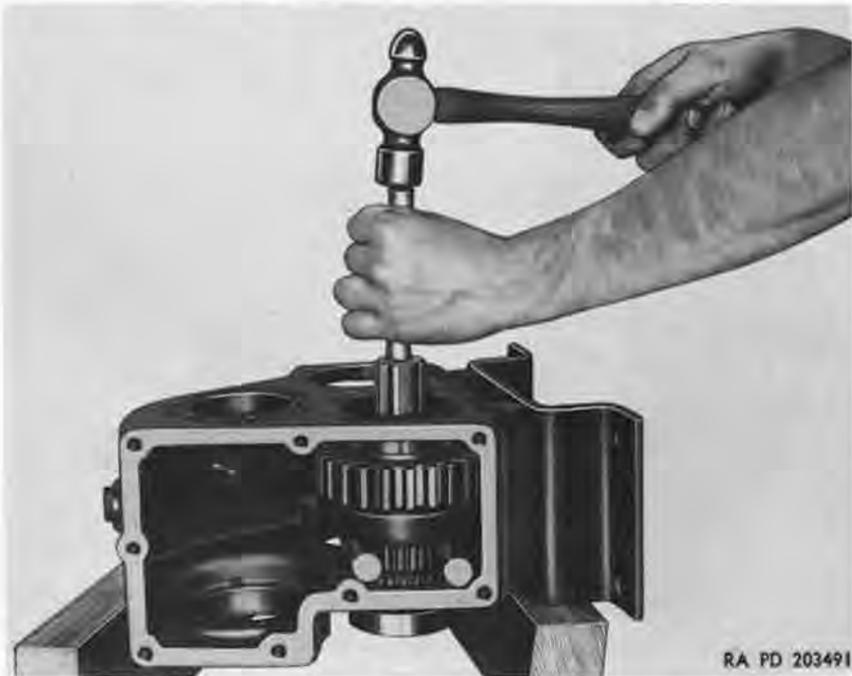

Figure 92. Removing input shaft.
- (1) In a similar manner to *e* above, drive pump output shaft to rear to remove from case.
- (2) Remove ball bearing assembly from pump output shaft as in *e*(3) above.
*g. Remove Input Shaft (fig. 92).*
- (1) Turn power divider case on its side and block up so that input shaft may be tapped out to rear with brass drift and hammer.
- (2) Support the input shaft gear inside of case and tap input shaft out of bearings, gears, and case.
- (3) Remove ball bearing assembly from input shaft as in *e*(3) above.